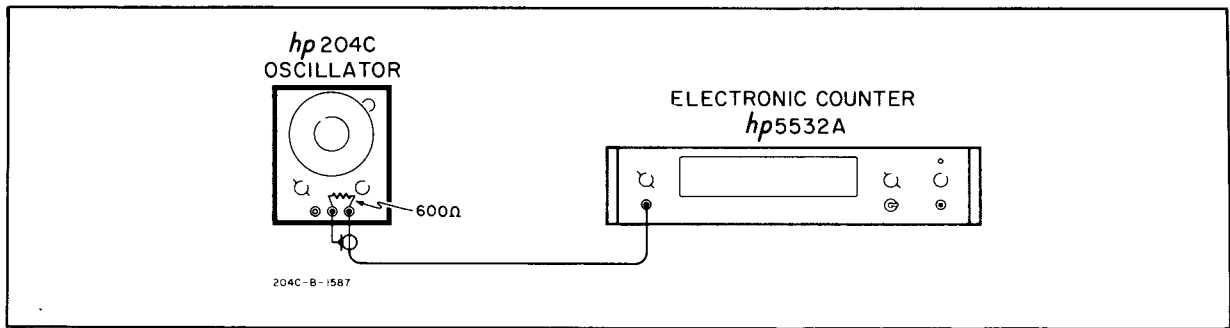

Figure 5-1. Dial Accuracy Check
- a. Connect the Model 204C/D and the Frequency Counter as shown in Figure 5-1. Set the counter to measure frequency and check the Model 204C/D at the frequencies listed in Table 5-2 for the tolerances indicated.